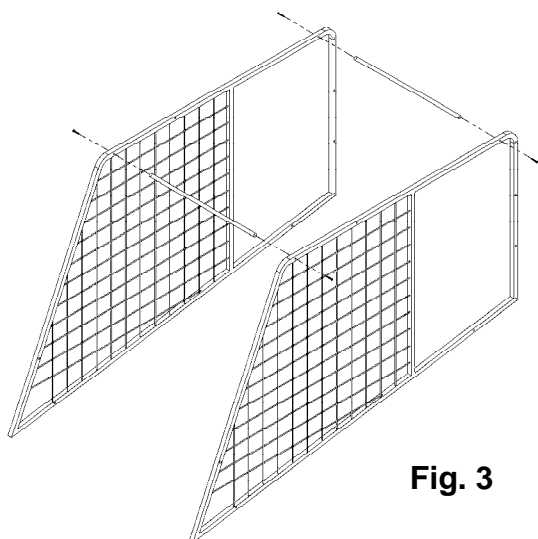

Fig. 3
7. Assemble the mesh framework using the two large frame sides and the two connecting pipes supplied. Assemble using (4) 1/4-20 X 2" full thread bolts and (4) flat washers. (See Fig. 3)